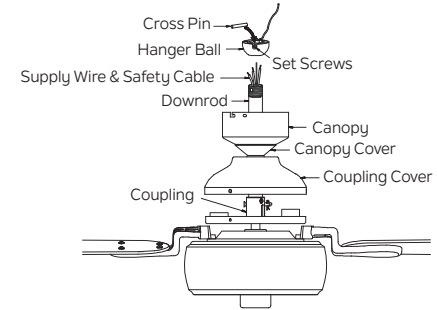

Fig. 11
**Step 8.** Slip the coupling cover, canopy cover and canopy onto the downrod. (Fig. 11)